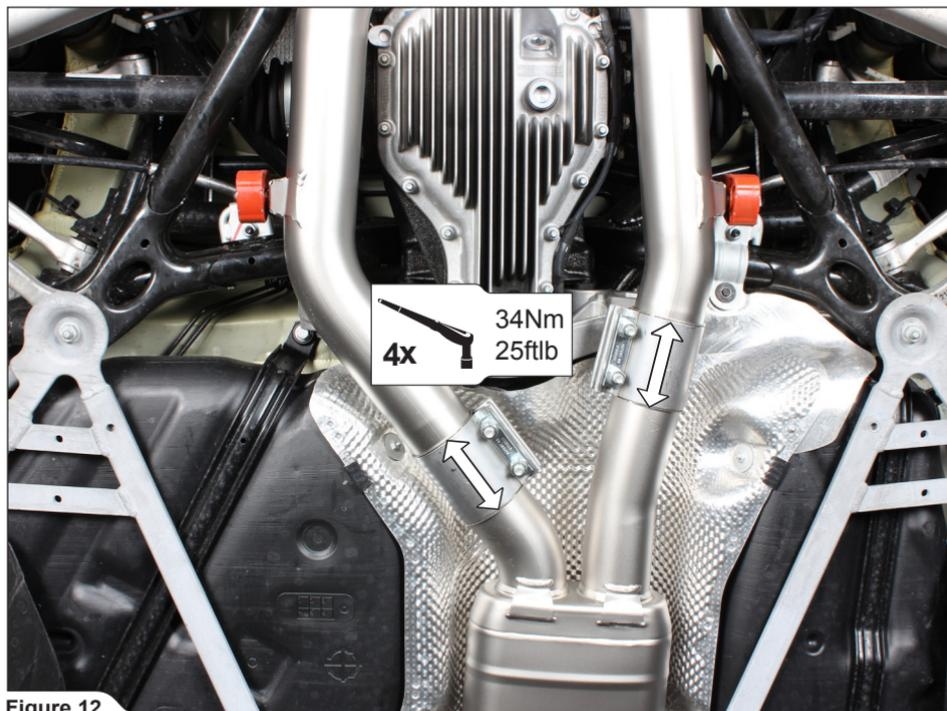

Figure 12
- Center the double clamps in the middle of the pipe joints and tighten the clamps to the specified torque (**Figure 12**).